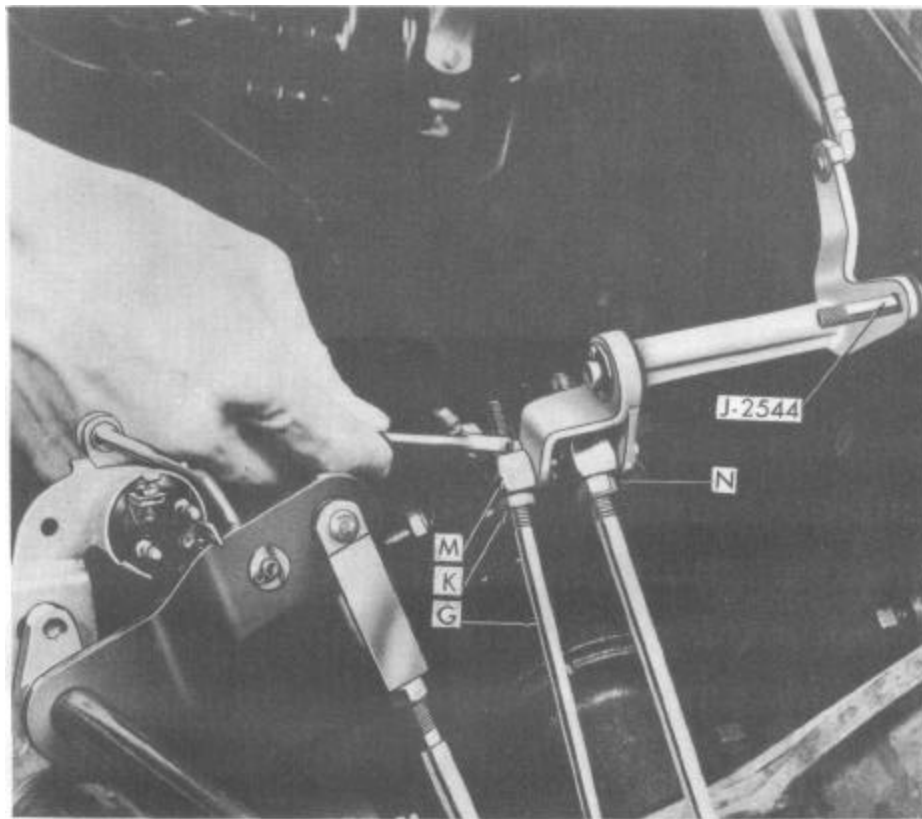

Figure 6
7. Install trunnion pin, flat washer and cotter pin. With the trunnion pin (M) in position, shorten the throttle rod (G) by backing off the rear lock nut (K) 11/2 turns and tighten the upper lock nut securely, Figure 6. Remove the J-2544 Gauge Pin.